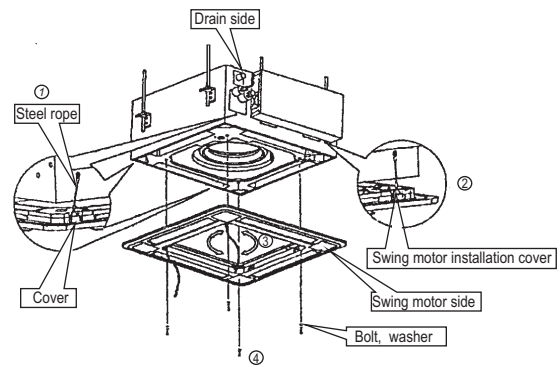

Fig.23
(2) Install the panel
- a. Align the swing motor on the panel to the water receiver of the body properly. (Refer to Fig.23)
- b. Hang the four fixed rope of the main body to the installation cover and the other three covers of the swing motor: (Refer to Fig.23)
- c. Install the panel on the main body with bolt (M5 16) and washer. (Refer to Fig.23)